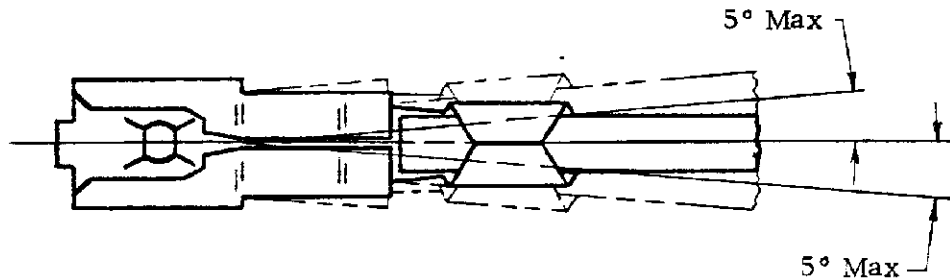

FIG. 3
- (2) The side to side bending of the contact shall not exceed the limits specified in Figure 3.